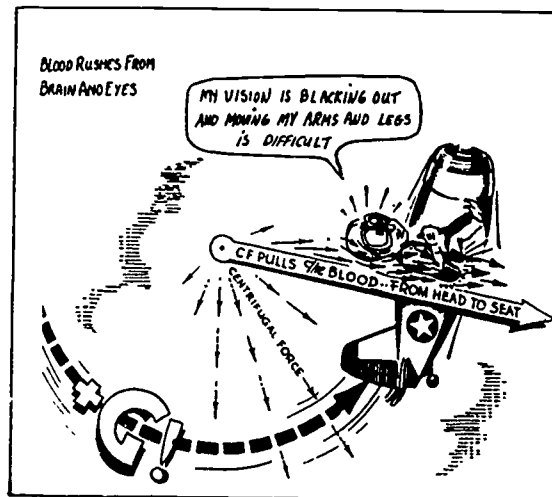

Figure 1. Effects of Positive G Forces.
Because of the speed of jet aircraft, great forces and strains are experienced by the pilot. On level flights there is no limit to the speed that pilots can endure. But in loops, turns, and climbs, forces on the pilot's body are more than he can endure. Centrifugal force (G) is that force which pulls outward from the center of rotation. This force is "G" force. The unit measure is called a "G." Sitting in an aircraft on the flight line, your weight on the seat is the force of gravity. This force is equal to 1 G, or equal to the weight of your body. If you sat on a scale during level flight, you would notice that your weight would be normal. But during maneuvers, your weight would become more (indicating a positive "G") or less (indicating a negative "G"). This would depend on the maneuver. You can see that the G force can be positive or negative. If the force acts to hold you down in the seat (figure 1) it is a positive "G." However, if the force tends to lift you from the seat, it would be a negative "G."